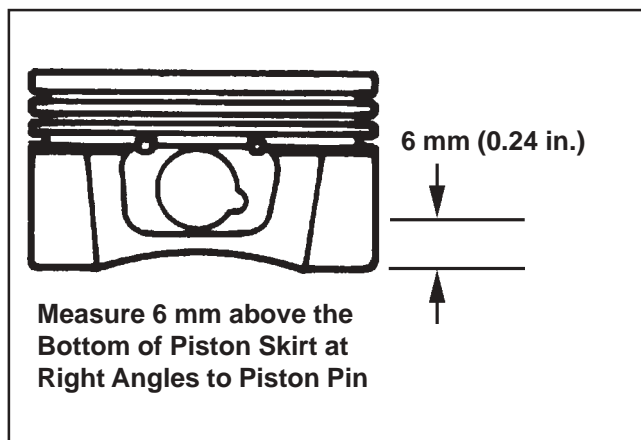

Figure 10-4. Measuring Piston Diameter.
1. Use a micrometer and measure the diameter of the piston **6 mm (0.24 in.)** above the bottom of the piston skirt and perpendicular to the piston pin. See Figure 10-4.